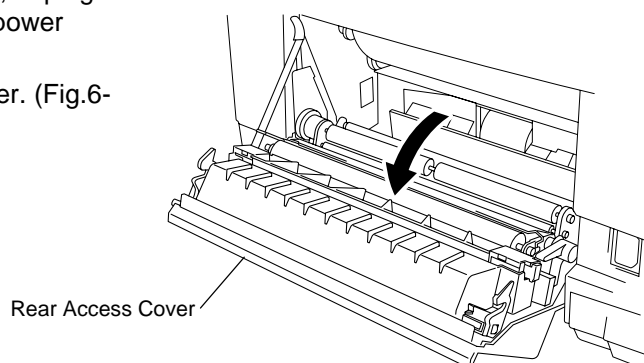

Fig.6-18
- 2) Open the rear access cover. (Fig.6-18)